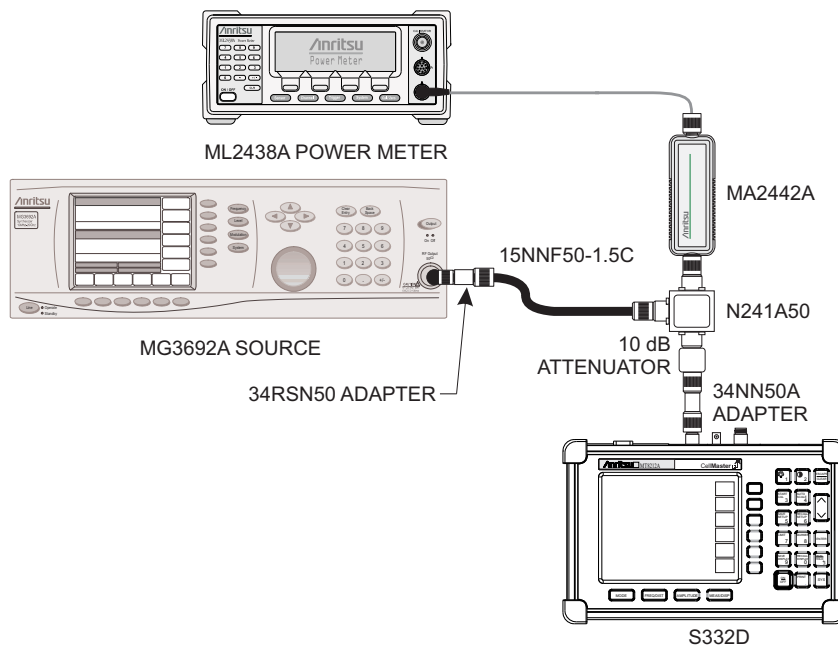

Figure 2. Level Accuracy Test Setup
17. Using the power splitter, coaxial cable, adapters and fixed attenuator, connect the Site Master to the signal source and the power sensor as shown in Figure 2.
3. Using the power splitter, coaxial cable, adapters and fixed attenuator, connect the Site Master to the signal source and the power sensor as shown in Figure 2.